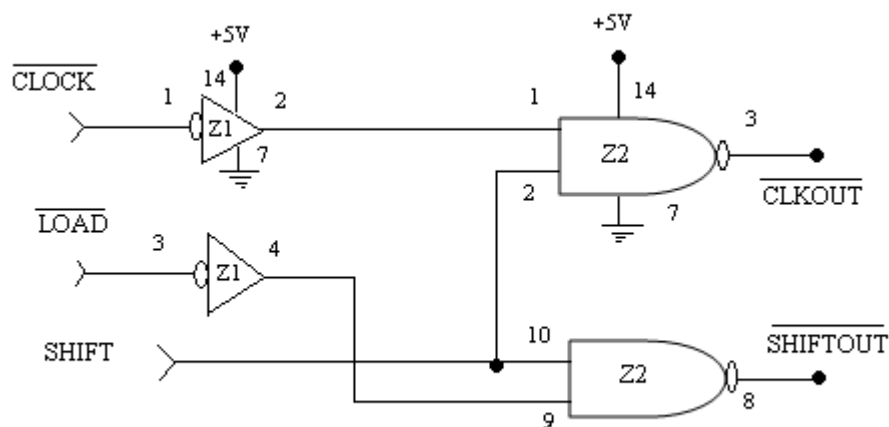

FIGURE 1
A connection diagram shows all electrical connections, pin numbers, IC numbers, component values, signal names, and power supply voltages. Figure 1. Shows a typical connection diagram for a simple logic circuit.
4. For circuit in figure 1, the signals that are inputs are on left side and the signals that are outputs are on the right.